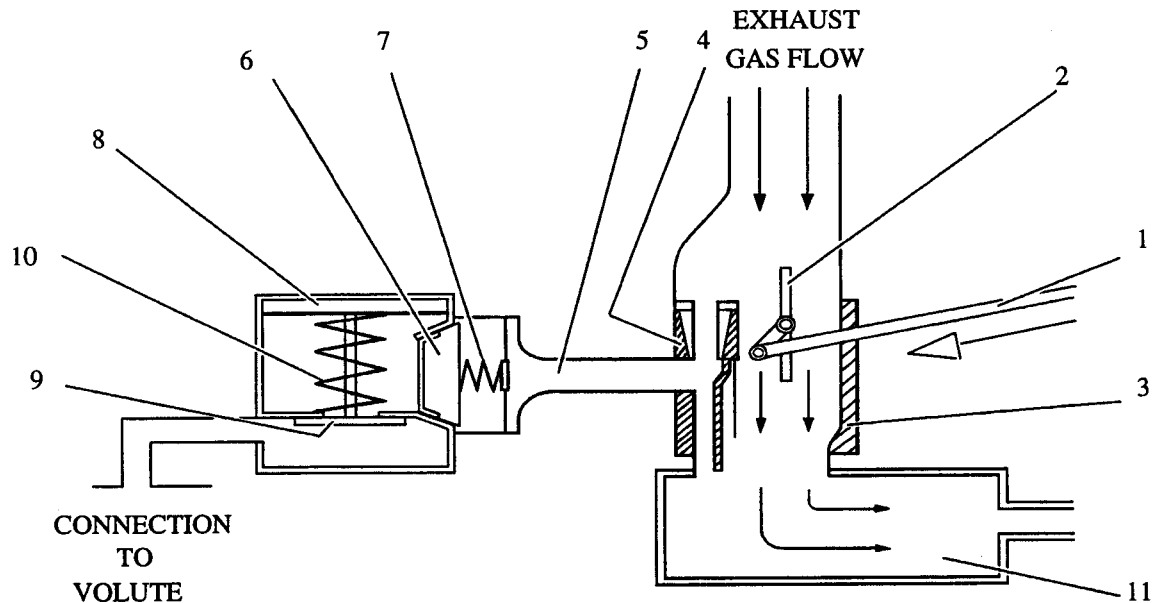

Fig. 5-1 Exhaust gas and water flow – ejector not operating
Priming is by means of an exhaust gas ejector. With the engine running and the pump primed, the engine exhaust gases pass from the exhaust manifold, through the ejector housing and into the silencer in the normal way (Fig. 5-1).
The exhaust gases then resume their normal path (Fig. 5-1) – the depression in the priming pipe (5) and the outlet housing-side of the non-return valve (6) is then destroyed and the valve closes under the influence of its spring (7).